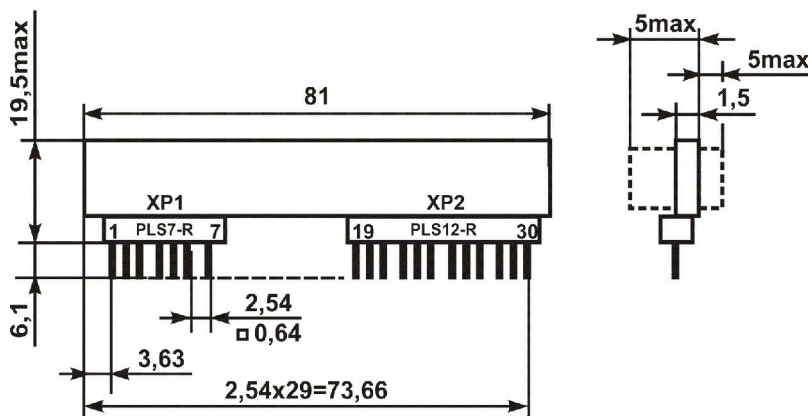
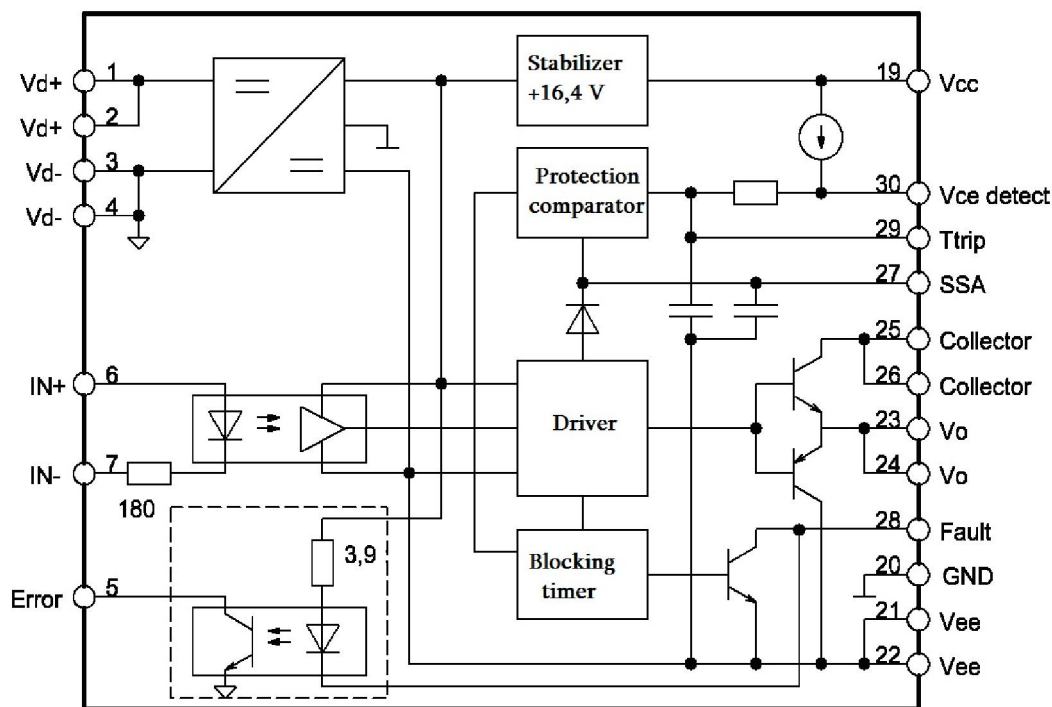
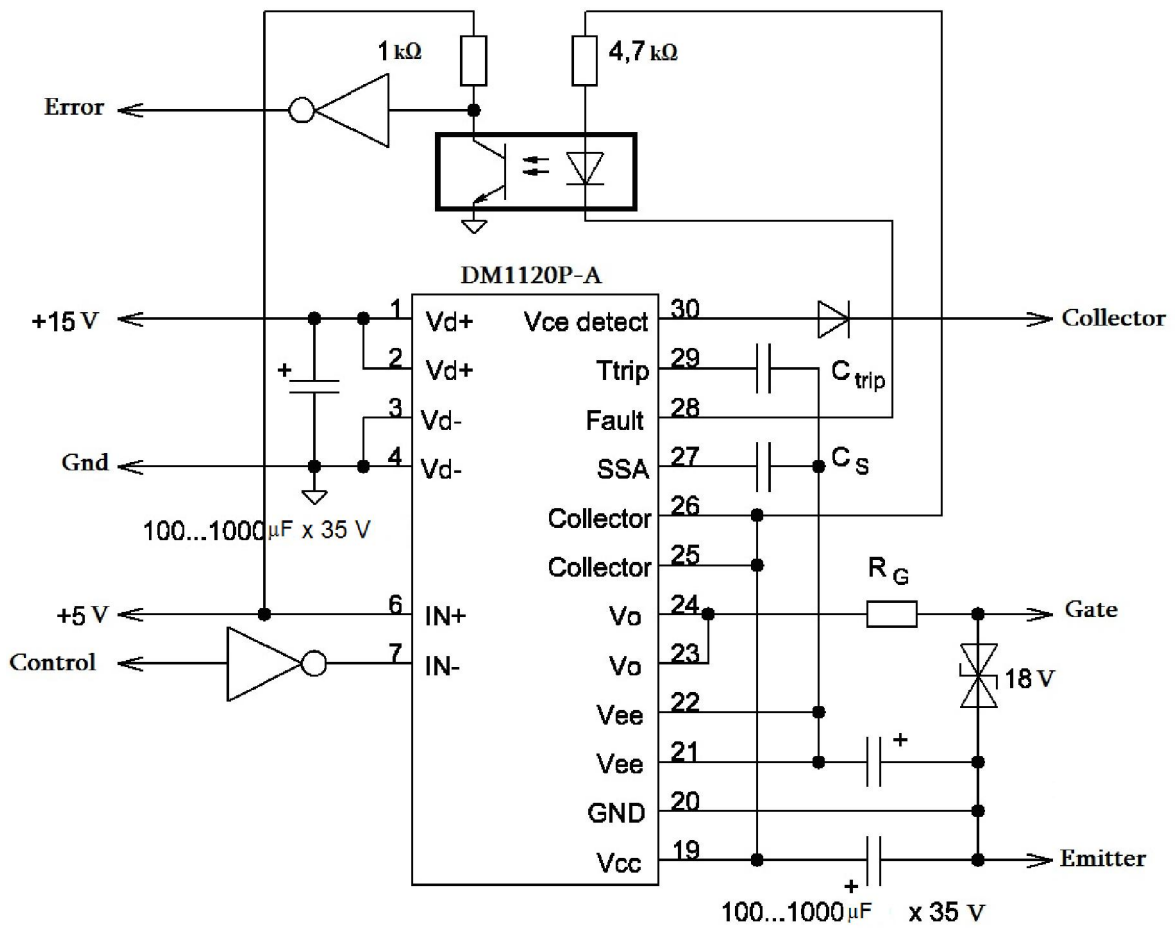

Figure 1 – Driver overall drawing
Figure 2 – Driver functional diagram
Figure 3 –Connection circuit of driver DM1120P-A
3.1 Dimensional drawing is shown in the Figure 1, functional diagram is shown in the Figure 2, connection circuit is shown in Figure 3.
Fault – output signaling about emergency appearance. Represents open collector of protection circuit transistor at controlled transistor non-saturation. Output is galvanically connected with output driver circuits; for state signal transmitting to galvanically isolated input driver circuit it is recommended to use optocoupler that is connected according to scheme in the Fig. 3. Output must not be used for DM1120P-A1.
V_{CC} – DC/DC converter positive supply output. To this output comparatively the «ground» of output currents must be connected capacitor with capacity 100...1000 μ F (see Fig. 3 and 4).
V_{EE} – DC/DC converter negative supply output. To this output comparatively the «ground» of output circuits necessary to connect capacitor with capacity 100...1000 μ F (see Fig. 3 and 4).